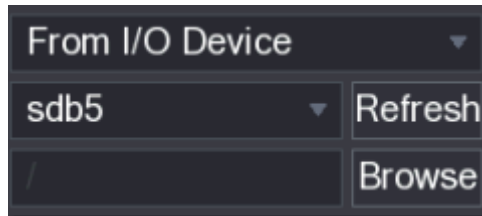

Figure 5-97
- **From I/O Device:** Recorded videos playback from external storage device. See Figure 5-97.